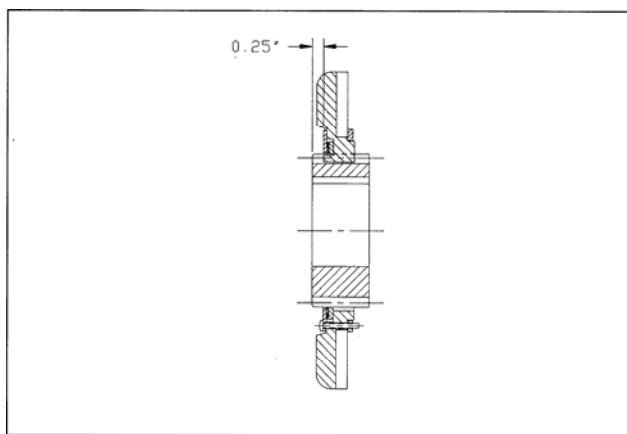

FIGURE 2: Armature Positioning
STEP 4 Position the armature within 0.25 inches of the end of the armature hub. (See Figure 2.) The armature will slide on the hub with hand pressure, although it will be stiff. This is normal.